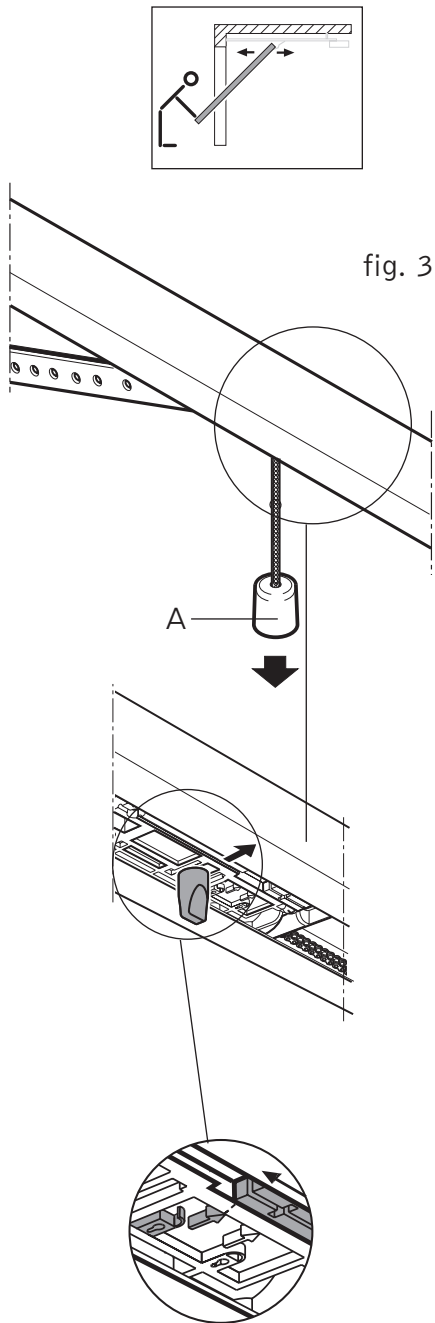

fig. 3
- a. Pull cord "a" to disengage. Carriage re-engage remain disengaged. See fig. 3